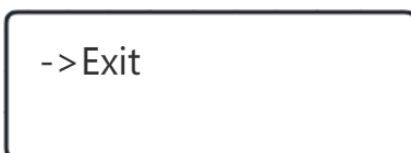

Figure 3.5-4 Exit the settings submenu
④ Press the [Λ][V] keys to move the setting cursor to **【Exit】**, as shown in Figure 3.5-4. Press and hold both keys to exit the setting submenu.